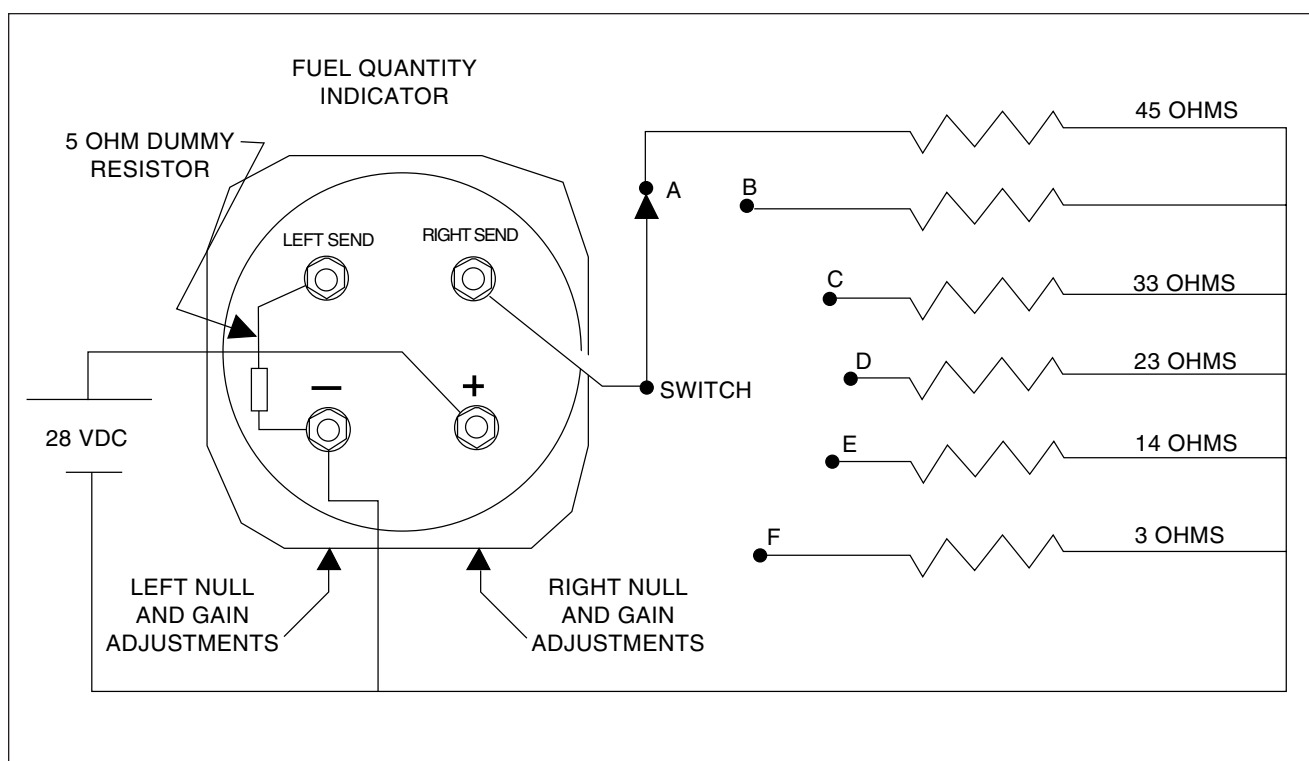

Figure 9-4. Resistance Decade Test Box Set Up
A. Connect a 5 resistor between the ground terminal (GND) and left or right sender terminal, appropriate to side not being tested. (Refer to Figure 9-4)
B. Connect resistance decade to the left or right sender terminal, appropriate to side being tested. (Refer to Figure 9-4)
C Apply 28 Vdc, through the resistance decade, to the ground (GND) and positive (+) terminals. (Refer to Figure 9-4)
D Low end adjustment: (Refer to Figure 9-4)
E High end adjustment: (Refer to Figure 9-4)
⁽¹⁾ See Figure 9-4
⁽²⁾ See Figure 9-4
9-22. FUEL FILTER BOWL AND SCREEN. (Refer to Figure 9-4.)